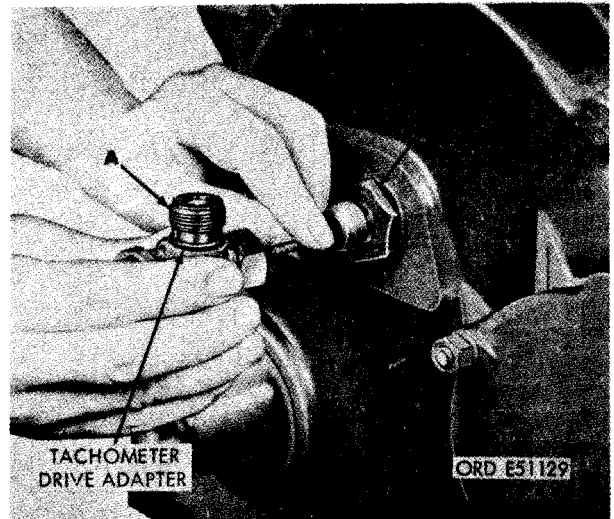

FIGURE 288. REMOVING OR INSTALLING TACHOMETER ADAPTER.
b. Removal. Figure 288. (A) Remove tachometer drive adapter and drive shaft from tachometer take-off adapter. (B) Remove tachometer take-off adapter and adapter gasket.